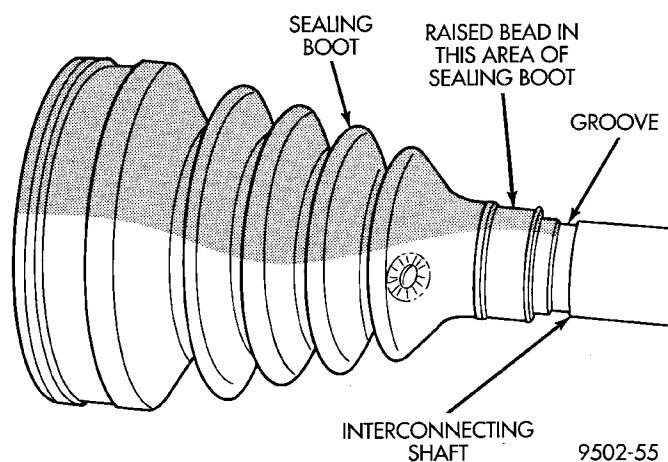

Fig. 30 Sealing Boot Installation on Interconnecting Shaft
(1) Slide inner tripod joint seal boot retaining clamp, onto interconnecting shaft. Then slide the replacement inner tripod joint sealing boot onto interconnecting shaft. **Inner tripod joint seal boot MUST be positioned on interconnecting shaft, so the raised bead on the inside of the seal boot is in groove on interconnecting shaft (Fig. 30).**